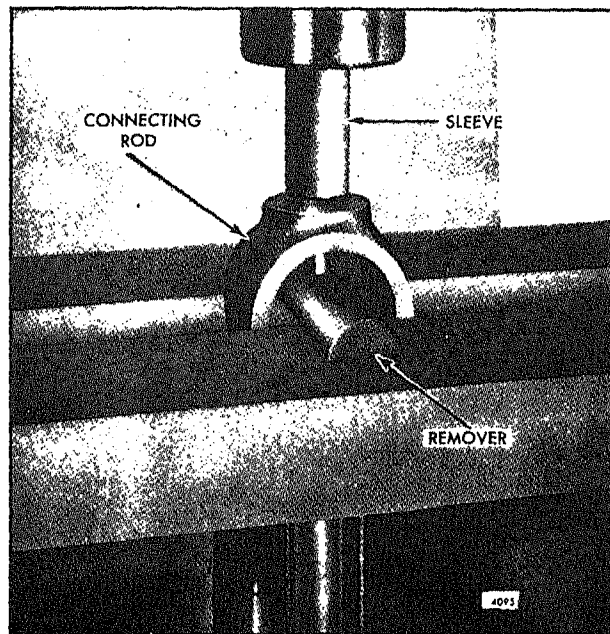

Fig. 5 - Removing Spray Nozzle
3. Support the connecting rod and tool in an arbor press as shown in Fig. 5.